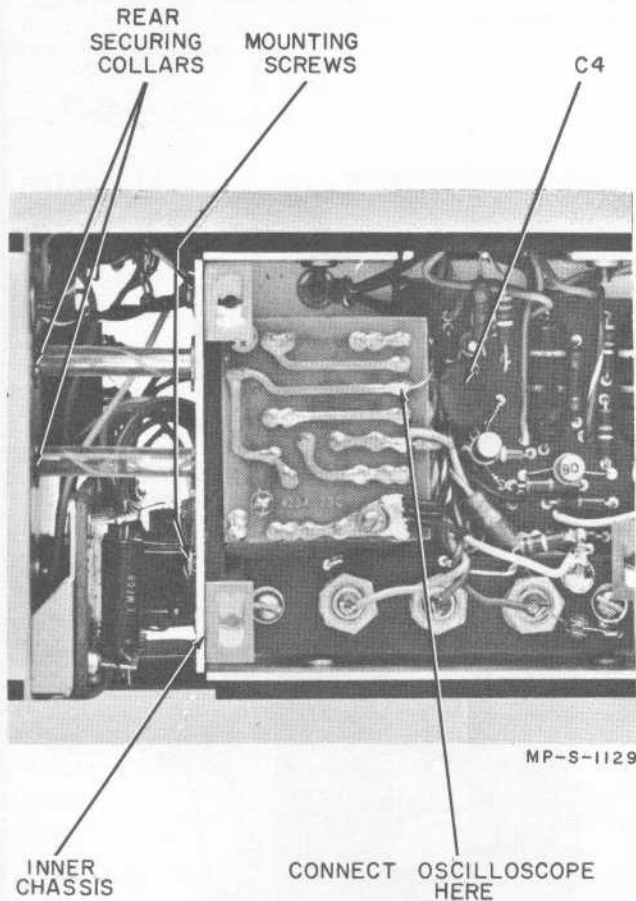

Figure 5-2. Modulator Assembly
f. Connect an oscilloscope to point where C4 is connected to circuit board. Connect common lead of oscilloscope to inner chassis. See figure 5-2.
5-25. Replace the modulator assembly, A4, as a unit; do not attempt to repair individual components. See figure 5-2 and proceed as follows: